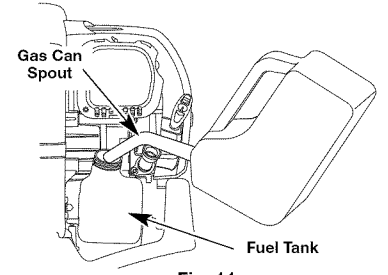

Fig. 11
2. Place the gas container's spout into the fill hole on the fuel tank (Fig. 11) and fill the tank.